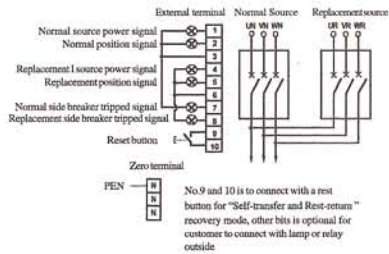
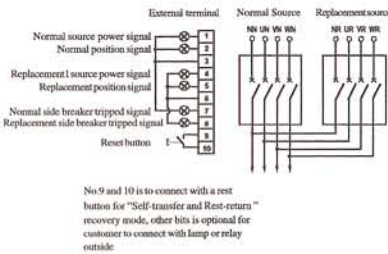

Fig.3 Three Poles ATNS with A type Controller
Fig.4 Four Poles ATNS with A type Controller
- State indication of Normal power source, Replacement power Source ,breaker closed and breaker failure trip are provided. For ATNS with A type controller, these signal (with Power)are provided to customer by external terminal,you can use these external signal according Fig.3—Fig.4